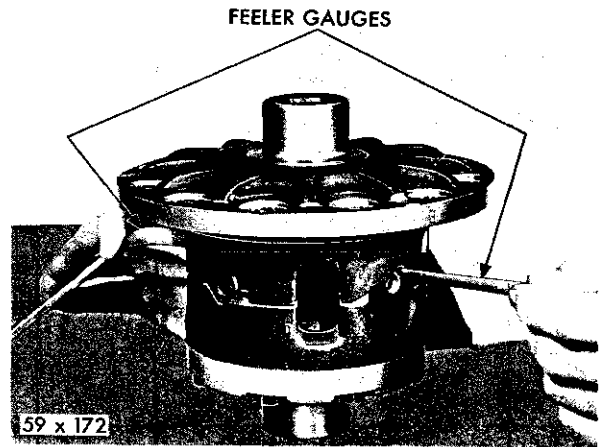

Fig. 44—Measuring the Clearance of Pinion Shaft and Cap
(10) Invert the differential to rest on the opposite hub. Measure the opposite pinion shaft in like manner to the same specifications (Fig. 44).